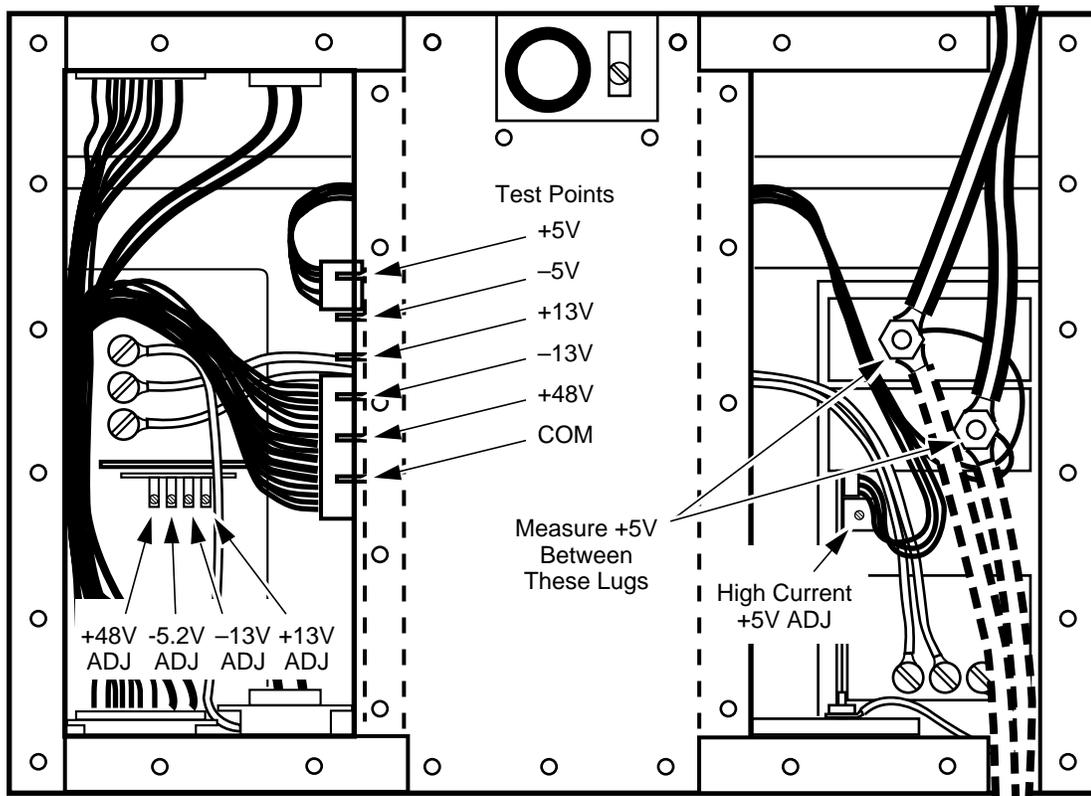

Figure 4-8. Voltage Test Points and Adjustments on Todd Power Supplies
3. Refer to Figure 4-8 for adjustment locations on Todd power supplies. Refer to Figure 4-8 for adjustment locations on Pioneer power supplies.